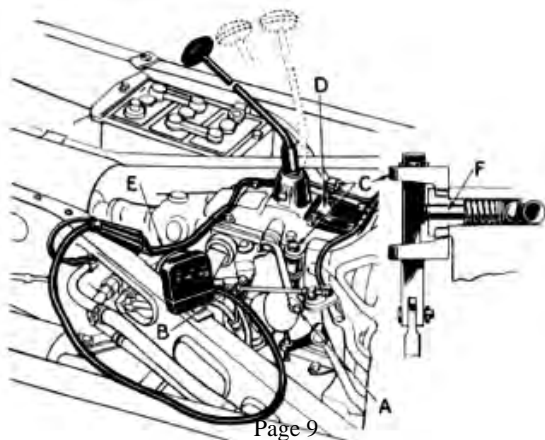

Figure 12
To test the point of cutoff, attach the lower harness test lamps to the lower harness wires (E) and ground the set as shown in Figure 12.